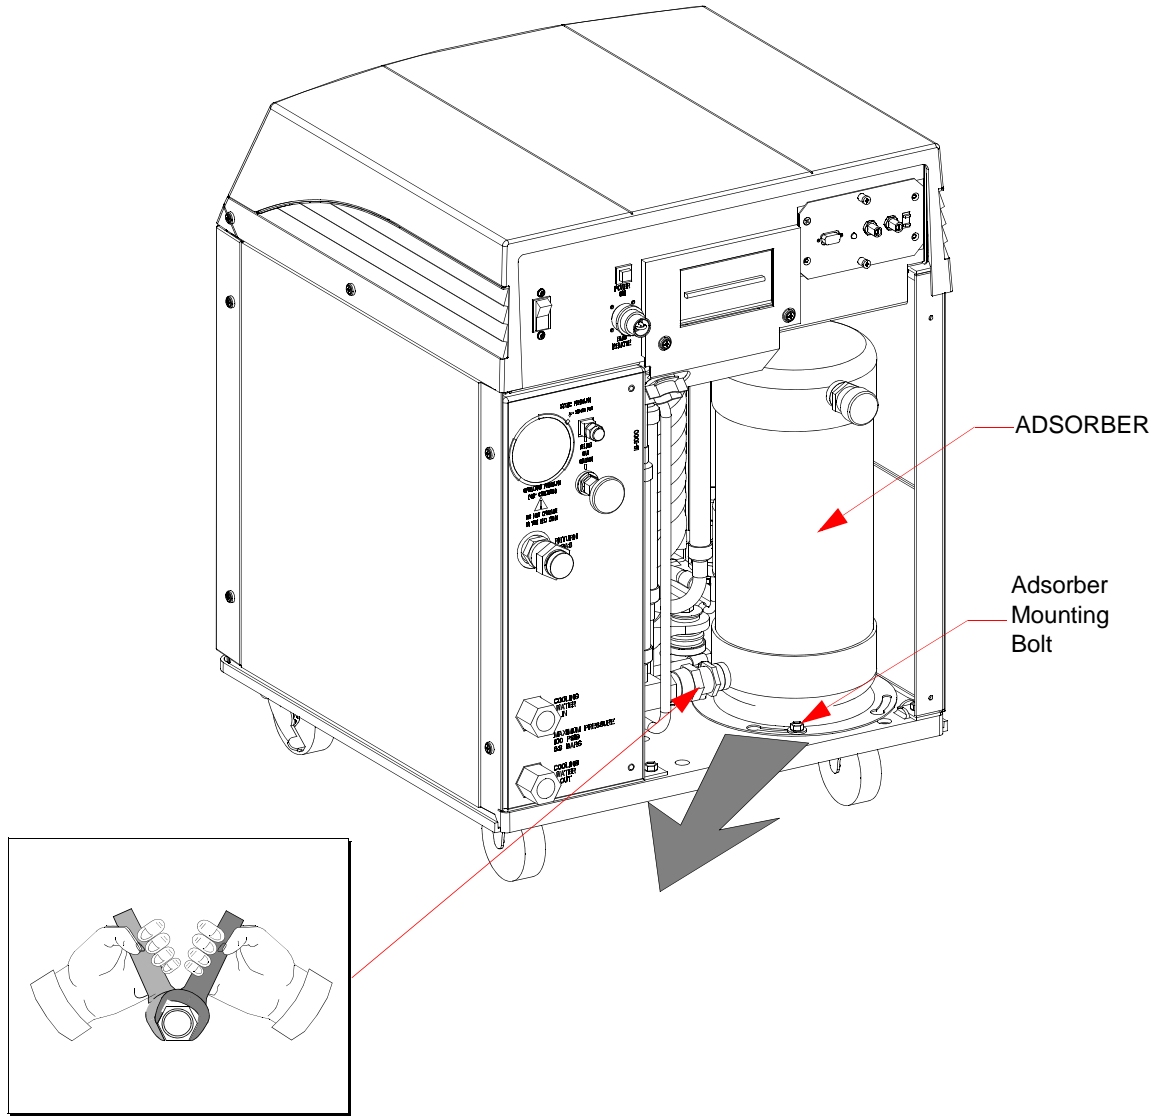

Figure 6-2: Adsorber Location within the On-Board IS 1000 Compressor
- Using a 7/16 in. (11mm) wrench, remove the adsorber mounting bolt as shown in Figure 6-2 on page 6-4.
- Move the adsorber from under the mounting tabs in the base as shown in Figure 6-2 on page 6-4 and remove the adsorber from the Compressor.